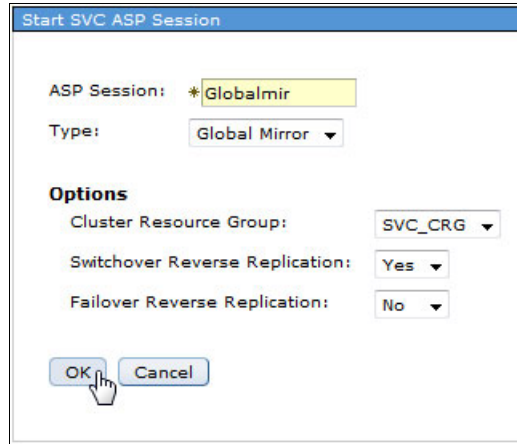

Figure 4-58 Three-node cluster: Starting an SAN Volume Controller ASP session
20. In the Start SVC ASP Session window, specify the following information, as shown in Figure 4-58: